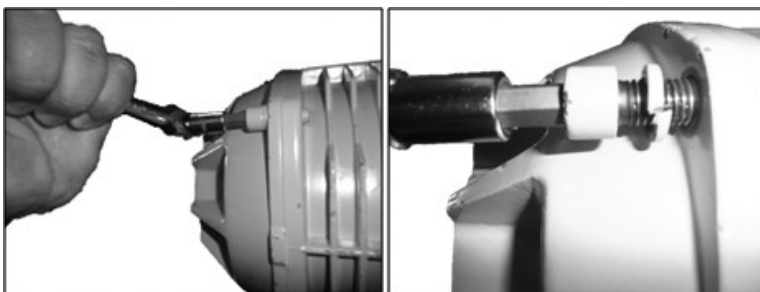

Figure 8.5.1
1. Loosen and remove socket head cap screw and spring washers securing the motor shell (see Figure 8.5.1).